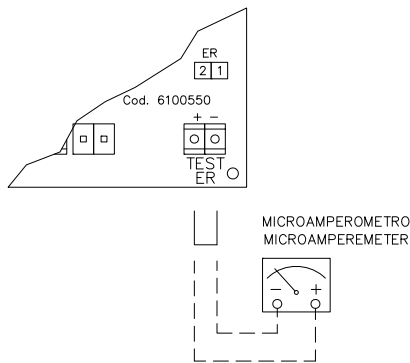
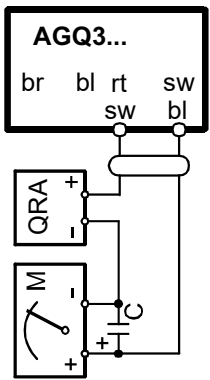

Fig. 38
Fig. 39
- Check the detection electrode, clean, adjust and, if necessary, replace; in case of doubt, check the detection circuit following the diagram in Fig. 38 and Fig. 39, after turning the burner back into operation.
Siemens LME (with UV detector)	3 μ A (Fig. 38) - 200 μ A (Fig. 39)